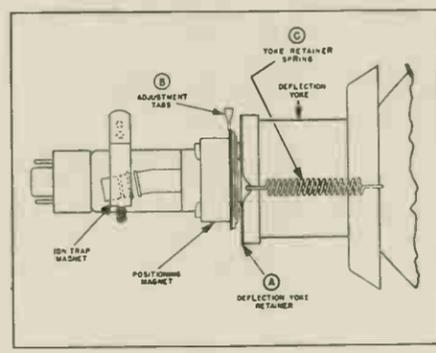

Figure 1
1. Place the magnet on the neck of the CRT as shown in figure 1.